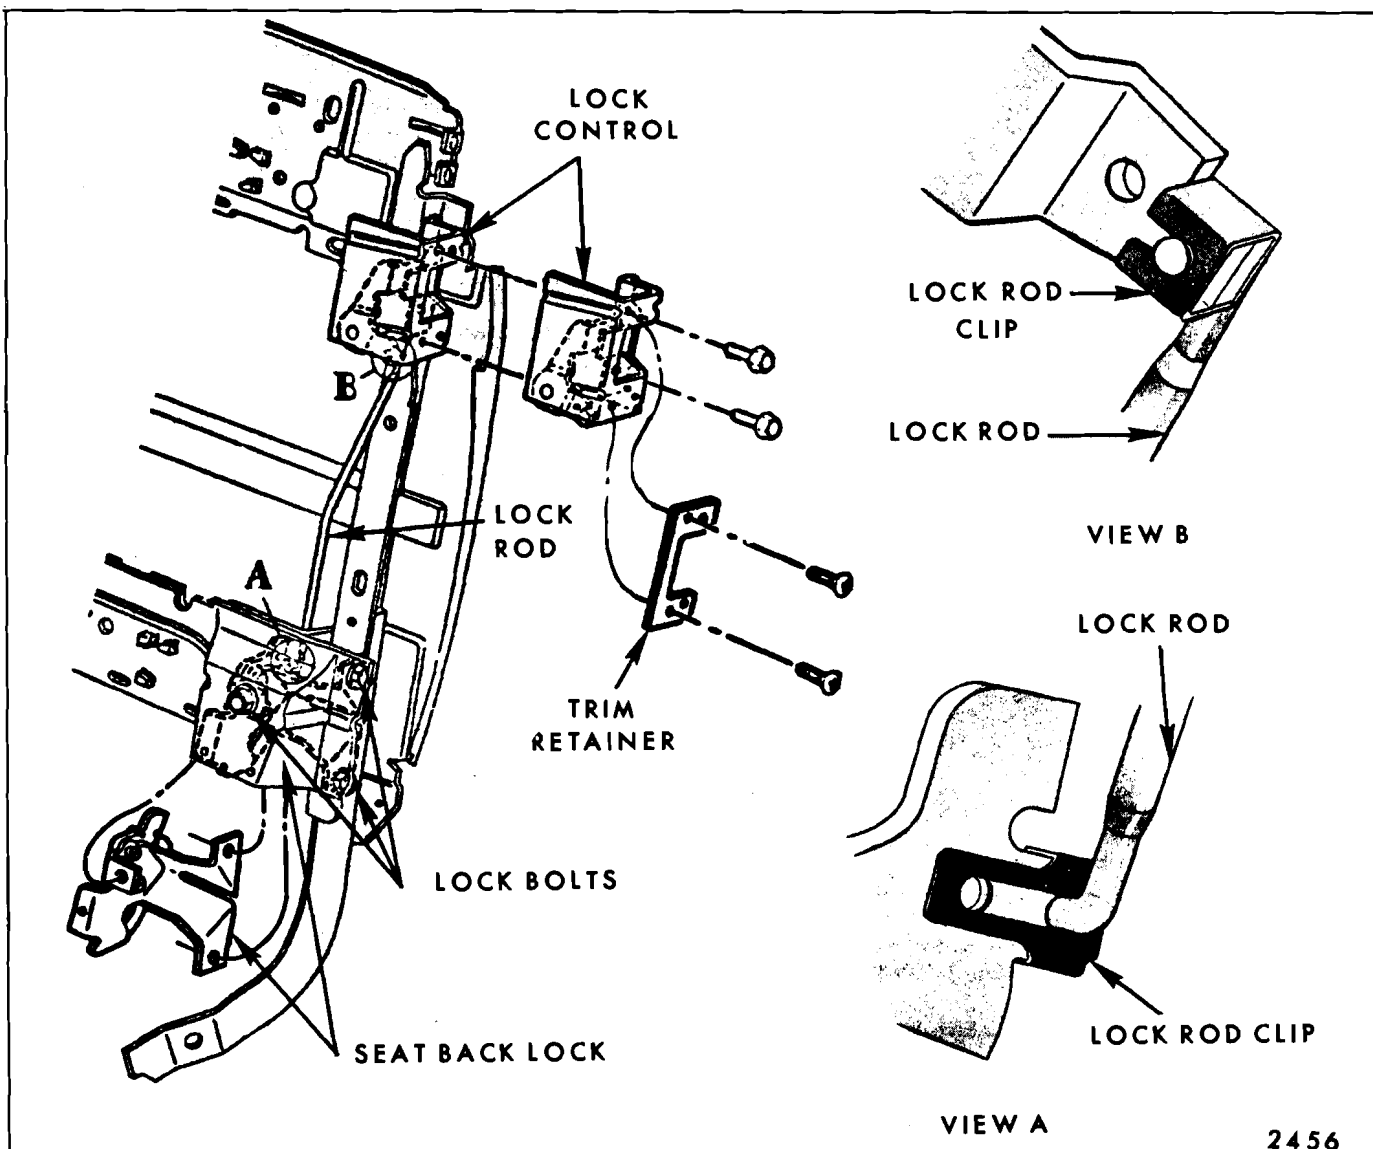

Fig. 15-32—Front Seat Back Lock - "C & E" Styles with Standard Full Width or 60-40 Seats
to gain access to lock attaching bolts. If removing lock control or rod, turn up trim to gain access to lock control bolts (See Fig. 15-32).
4. a. To remove seat back lock, disengage lock rod clip at lock (Fig. 15-32) and detach rod from lock. Remove lock attaching bolts (Fig. 15-32) and remove lock from bottom of seat back.
- b. To remove seat back lock control, disengage lock rod clip at control (Fig. 15-32) and detach lock rod from control. Remove lock control attaching bolts (Fig. 15-32) and remove lock control from seat back.
- c. To remove lock rod, disengage lock rod clip at lock and at control (Fig. 15-32);